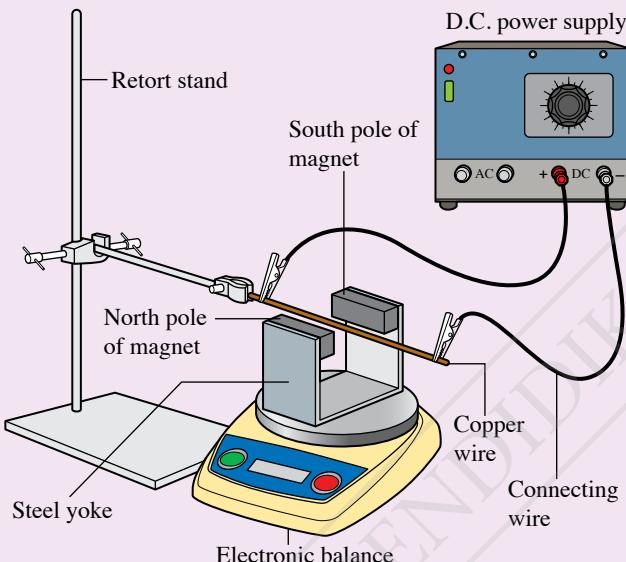

Figure 4.5
- Set up the apparatus as shown in Figure 4.5.